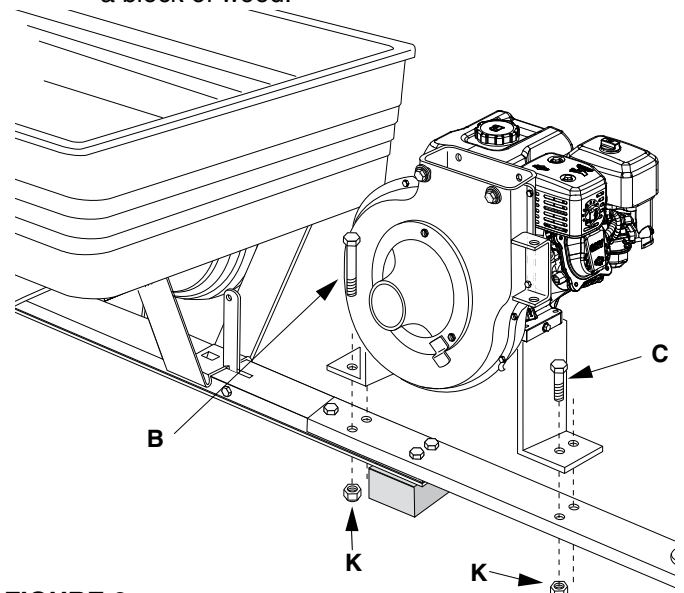

FIGURE 6
- Attach the engine mounting plate to the tongues using two 3/8" x 3" hex bolts (B) in the back holes, two 3/8" x 1" hex bolts (C) in the front holes and four 3/8" nylock nuts (K). See figure 6. Note: Engine shown may be different from your unit.